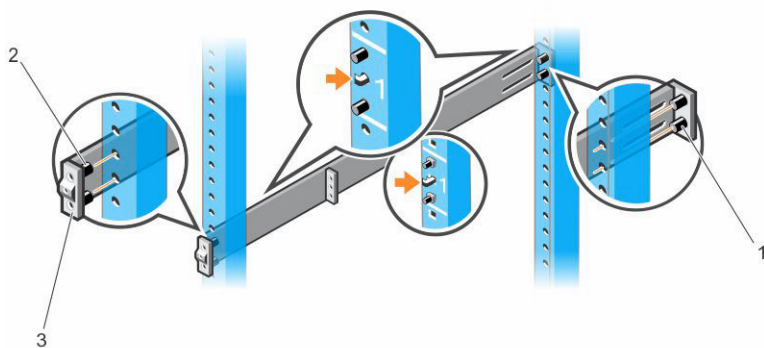

Figure 14. 1U Tool-less Configuration
- 1 With the ReadyRails flange ears facing outward, place one rail between the left and right vertical posts. Align and seat the back flange rail pegs in the back vertical post flange. To see how the pegs appear in both the square and unthreaded round holes, see Figure 14.